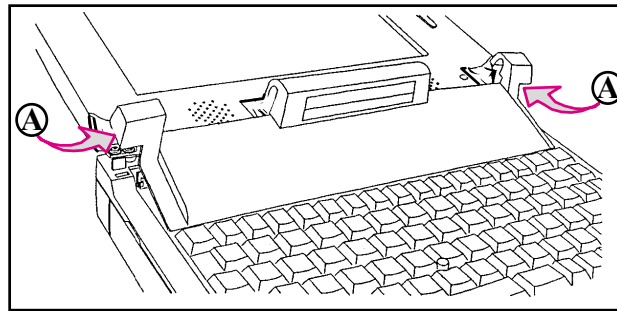

FIGURE 5-1
1. REMOVE THE KEYBOARD FRAME COVER BY PRYING IT UP FROM NEAR THE HINGES (FIGURE 5-1 A). IT IS EASIER IF YOU WORK FROM ONE SIDE HINGE FIRST AND THEN TO THE NEXT ONES.